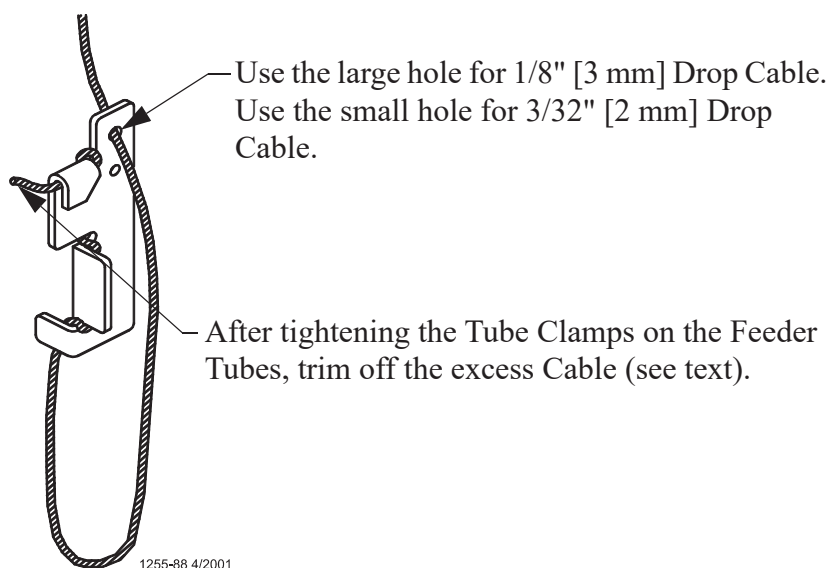

Figure 37. Cable Lock Threading
6. Install Adjustment Leveler within 6" [152 mm] of feeder line. **Figure 37.** shows the proper cable routing around the Adjustment Leveler.
Finally, tighten the Tube Clamps on the feeder tubes. Clamp the joints securely, but do not crush the tubes. Re-adjust all Adjustment Levelers as needed and trim off excess cable as shown in **Figure 37.**